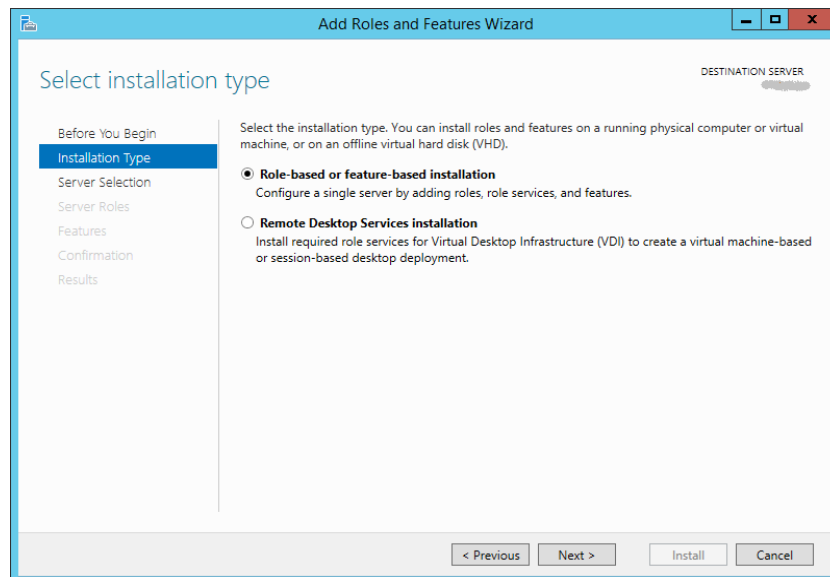

Figure 3. Installation Type section of Add Roles and Features wizard
3. Click **Next**. The wizard displays the Installation Type section (shown in Figure 3). Select the Role-based or feature-based installation option. Use it to configure this server by adding roles, role services, and features.